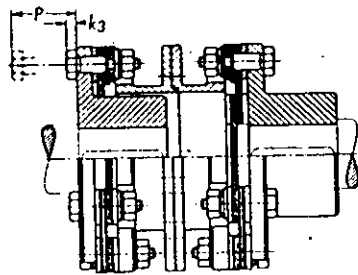

Fig. 2.1
- 4.2. Hubs should preferably be mounted with the aid of special tools available for this purpose. When mounting couplings with a "B" hub and for miniature series couplings AWM, design A, AB and C, check whether minimum clearance P is available (see figs. 2.1 and 2.2). Dimension k3 must be taken into account also. In case minimum clearance P is not available, the close fitting bolts must be inserted before mounting the hubs (see table 5.1 for dimensions of P and k3). With miniature series couplings type AWM, design C and CD, prior to fitting the hubs, the plate pack must be mounted on one hub, in design D on both hubs first.